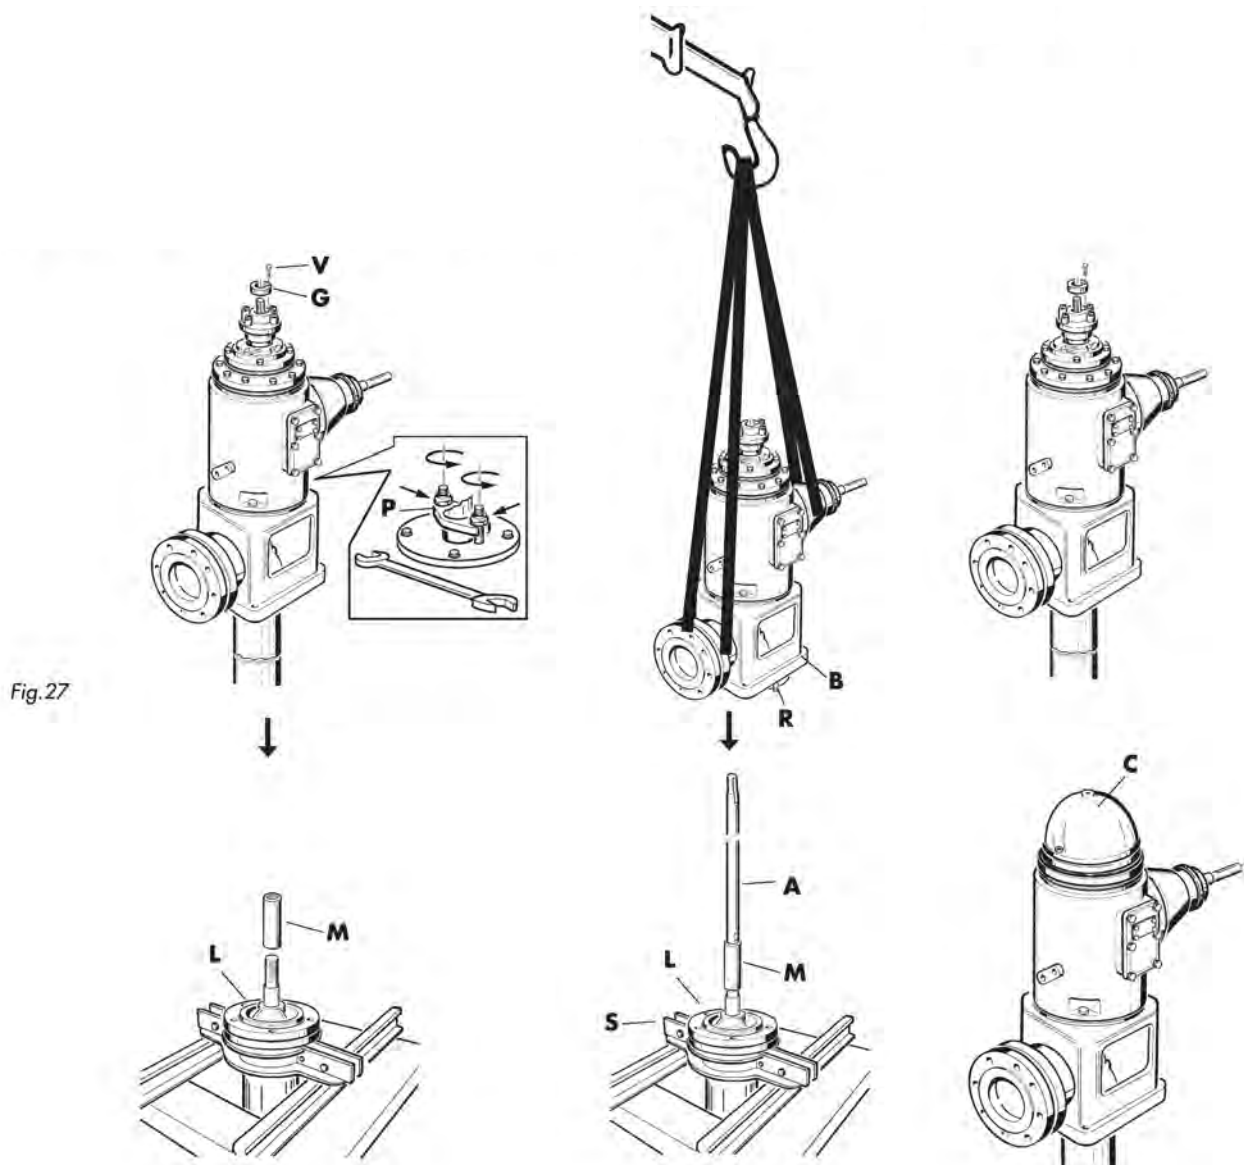

Fig.27
- Remove the screw (V) securing the adjusting ring nut (Fig.27).
- Loosen the adjusting ring nut (G).
- Loosen the gland box (P).
- Remove the shaft (A) from the delivery base side (B) (bottom of unit).
- Tighten the sleeve (M) on the last section of the axis line (L).
- Tighten the head shaft (A) on the sleeve (M).
- Tighten the studs (R) in the delivery base.
- Harness the head with ropes or straps, lift it and remove the bracket (S).
- Lower by inserting the shaft (A) into the appropriate hole, and secure the axis line (L) to the delivery base studs (R).
- Lift everything and remove the bracket (S).